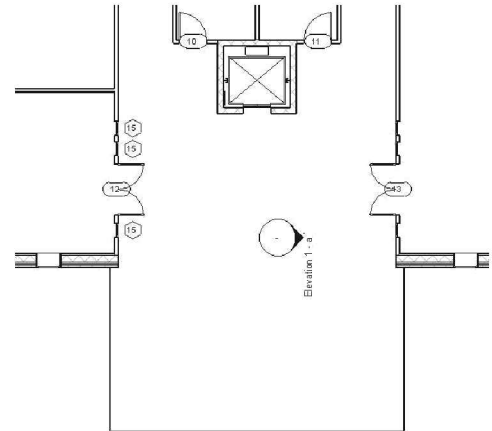

FIGURE 8-3.1 Level 1 - Atrium
4. Select *Elevation: Interior Elevation* from the *Type Selector* and then place an elevation tag, looking East, in the atrium area (Figure 8-3.1); place as shown in the center of the room.